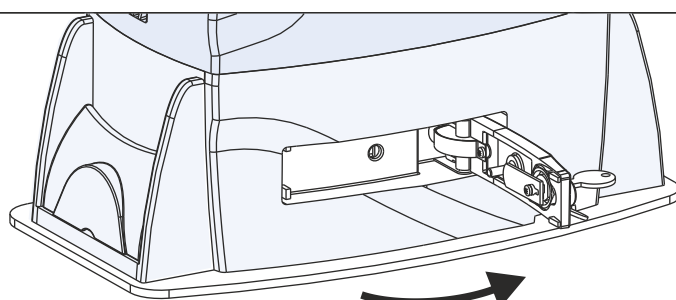

Fig. 29
- Pull the release lever until it stops, 90° approximately (Fig. 29)